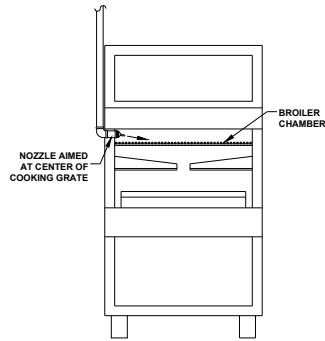

Figure 3-22. Upright Broiler 36" (91 cm) x 24" (61 cm) Model N-1LP Nozzle
The **Model N-1LP** nozzle is a one (1) flow point nozzle that can protect an upright broiler (salamander broiler) with a cooking area of 36" (91 cm) wide by 24" (61 cm) deep. The nozzle must be located in the top front corner of the broiler and aimed at the center of the cooking grate. See **Figure 3-22**.